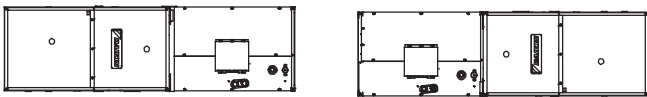

Figure 1
**CHECK HORIZONTALITY LEVEL OF THE UNIT WITH SPIRIT LEVEL. DON'T TILT THE UNIT DOWN THAT MAKES IT DIFFICULT TO DRAIN EVEN THOUGH THE LEVEL IS WITHIN CRITERIA OF SPIRIT LEVEL. SEE FIGURE 1. SUCH TILTED UNITS MAY CAUSE WATER LEAKS.**